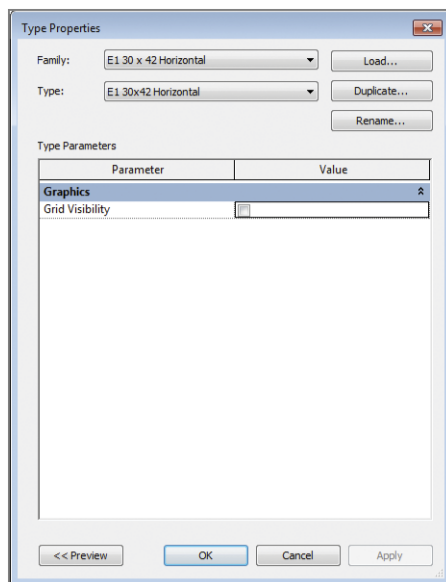

FIGURE 6.43 The Grid Visibility parameter in the Type Properties dialog box
10. Select the title block in the project, and click Edit Type in the Properties palette to open the Type Properties dialog box (Figure 6.43).